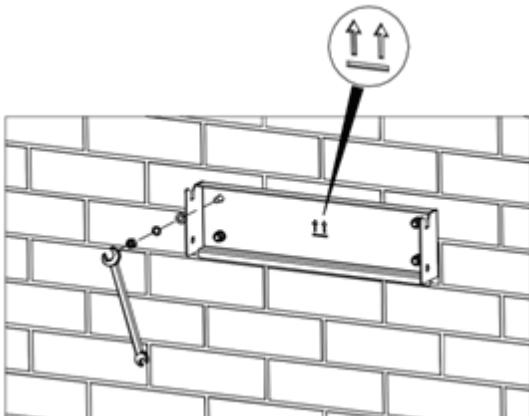

Figure 13 Fix the installation bracket
(4) Fix the installation bracket onto the expansion bolts and ensure the installation is firm enough(tightening torque is $13\text{N}\cdot\text{m}$) . As shown in Figure 13.